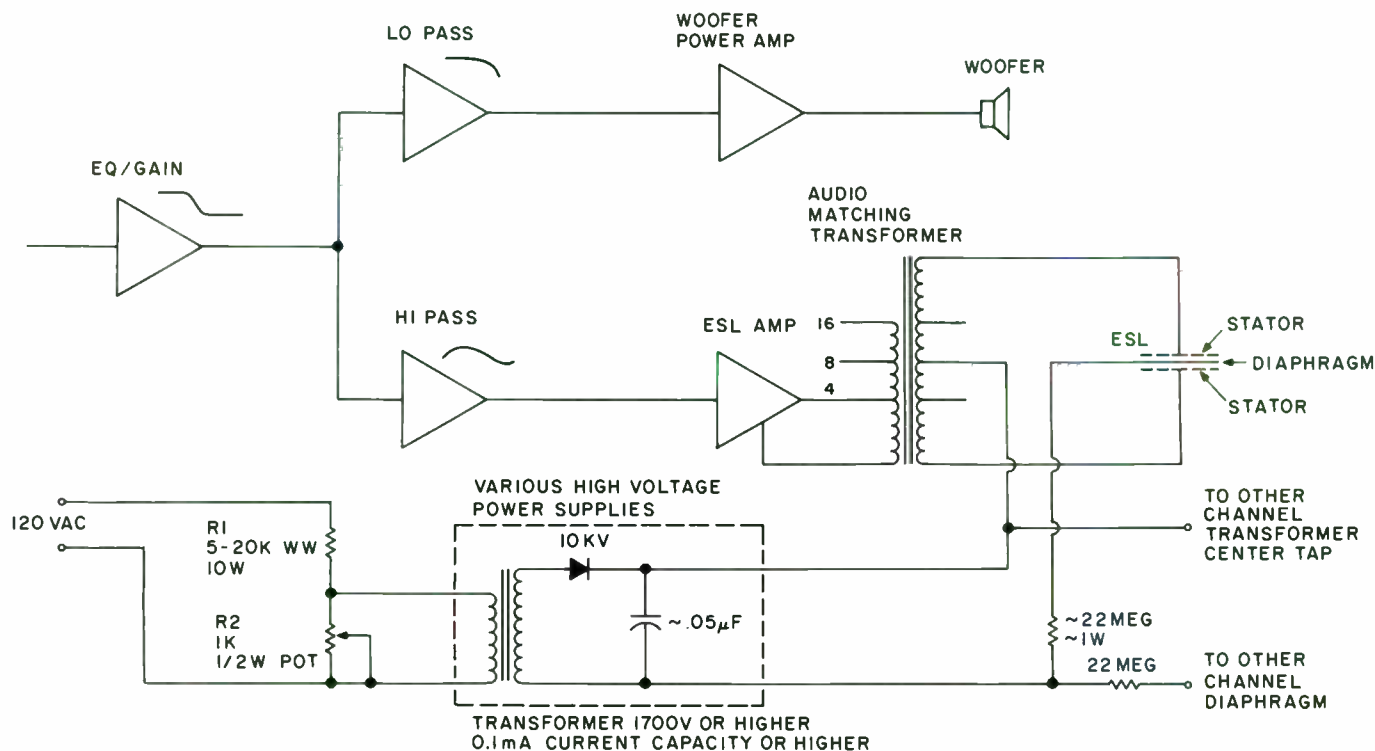

FIGURE 9: Associated electronics (per Sanders).
**ELECTRONICS.** We can drive electrostatic loudspeakers in several ways. I refer you to a very simple drive system (Fig. 9), as described by Roger Sanders (SB 2/80). The high voltage parts are quite difficult to find, but are available through the suppliers listed at the end of this article. In selecting your step-up transformer for bias voltage, select one capable of very high voltage output. The electrostatic loudspeaker as described is capable of handling 7-10kV supplies without arcing. This enables the loudspeaker to deliver high sound pressure